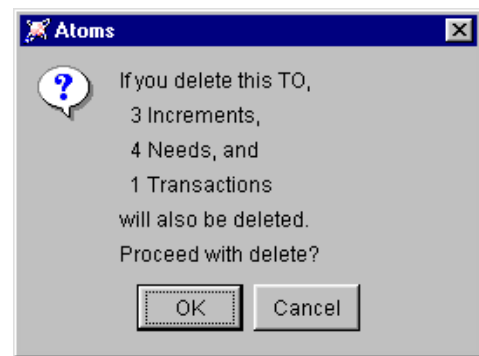

Figure 4-12. Proceed with TO Delete
- 4) Click the **Delete** button on the Delete TO window. If there are any TO Increments, Needs, or Transactions associated with the TO, a dialogue box appears displaying the number of associations that will also be deleted (Figure 4-12). Click **Ok** (or press **Enter**) to continue. The dialogue box disappears.